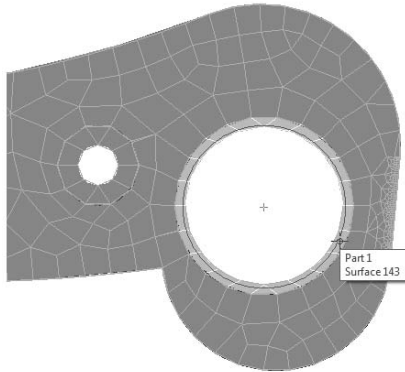
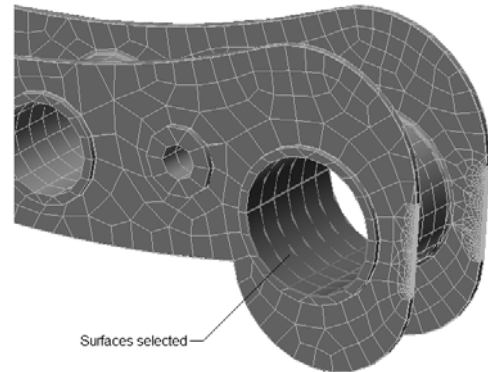

Figure 8-80 The circle being drawn around the large hole of the model
Figure 8-81 Surfaces that are completely enclosed inside the circle drawn are selected
- Draw a circle around the large hole of the model, refer to Figure 8-80. All the surfaces that are completely enclosed inside the circle are selected, refer to Figure 8-81.